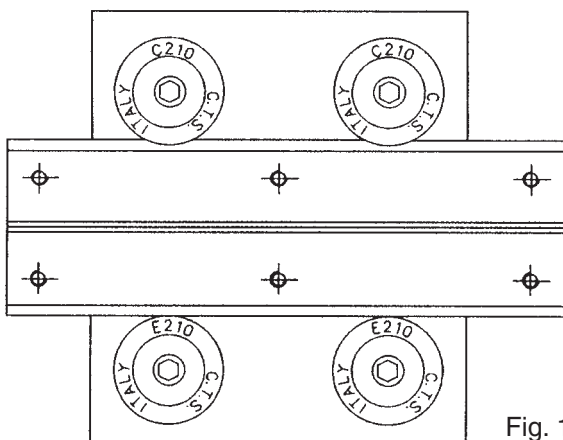

Fig. 1
- 2) Assemble the two eccentric wheels marked with the letter "E", on the opposite side, and with a socket head spanner, position it at the point of maximum play (fig. 1).